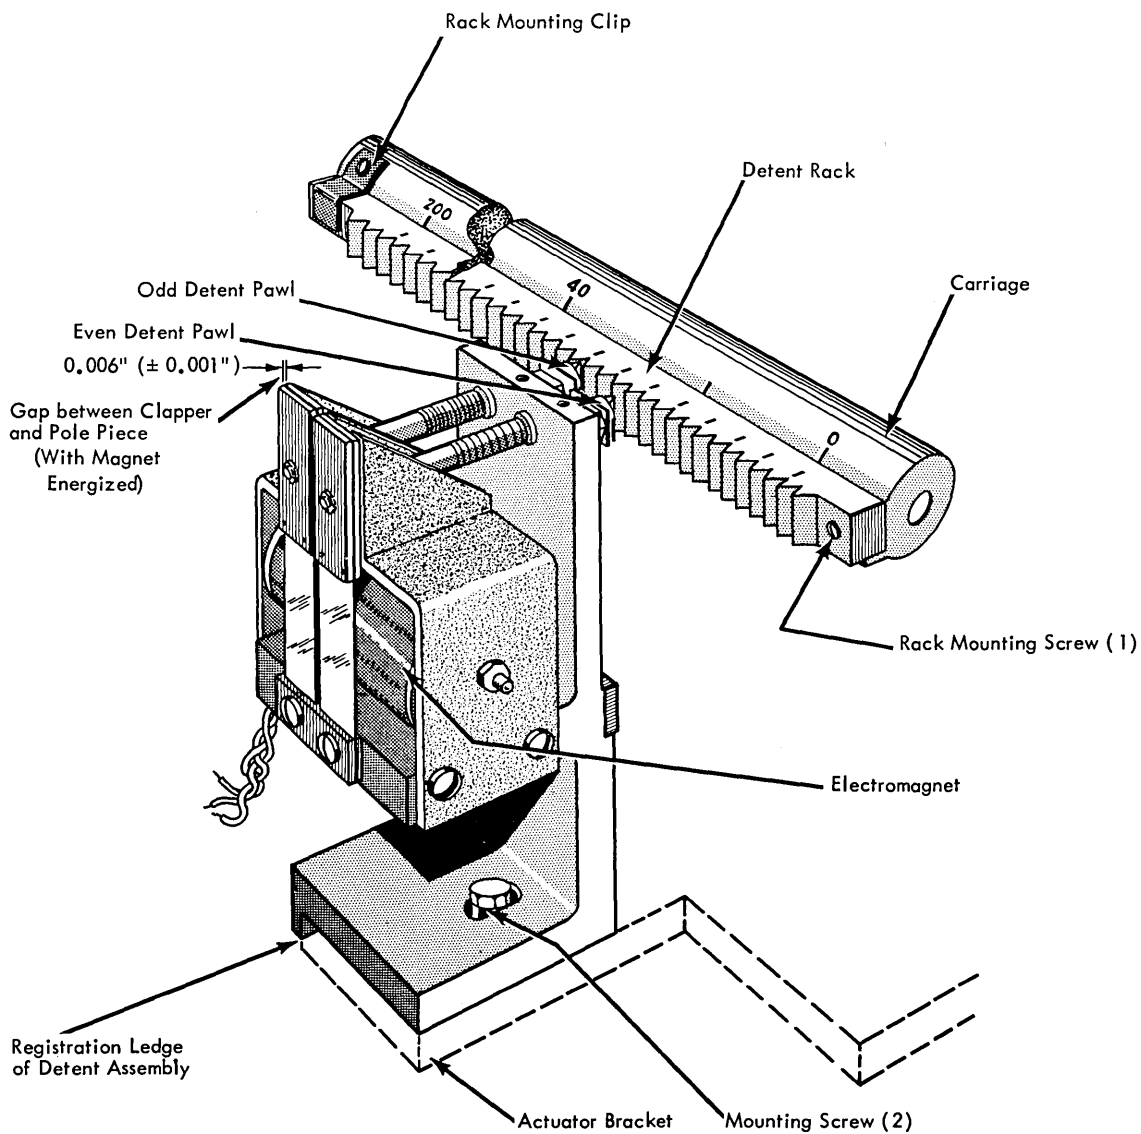

Figure 4-4. Detent Assembly, Adjustment Clearance
4.7.2 Detent Assembly Adjustment (Figure 4-4)
2. Push registration ledge of detent assembly against the corresponding edge of carriage mounting base (Figure 4-4).